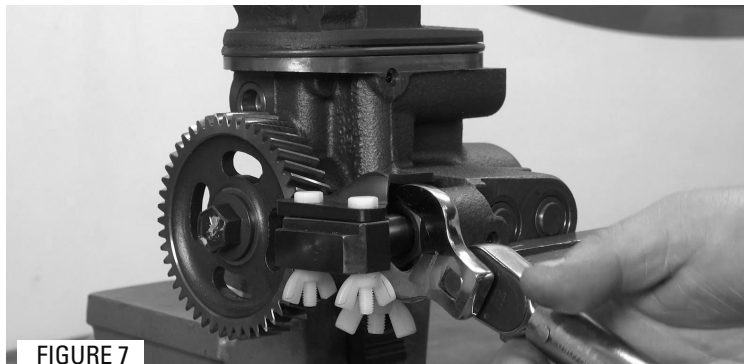

FIGURE 7
- 9** Tighten the jam nut with a 15/16" crowfoot adapter and torque wrench. Tighten to 66 Nm (49 lb-ft). (Figure 7)